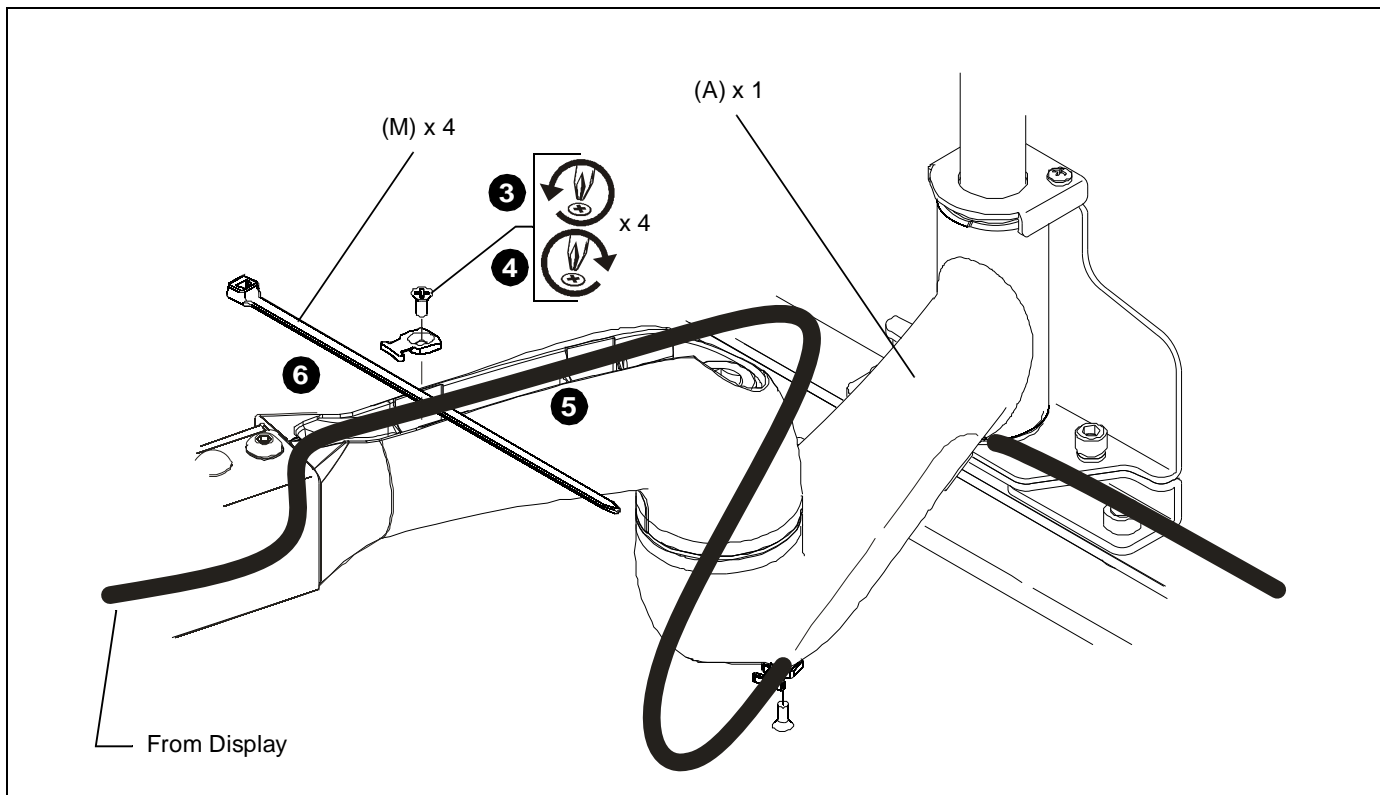

Figure 6
3. Loosen front and rear cable clamps on top arm. (See Figure 6)
4. Thread cable ties (E) under cable clamps and secure clamps to top arm. (See Figure 6)
5. Route power/audio/video cables through the cable channel in top arm (See Figure 6), allowing sufficient slack in cables for left/right movement of display and swing arm and also swing arm extension and retraction.
6. Secure cables to top arm using two cable ties (E).